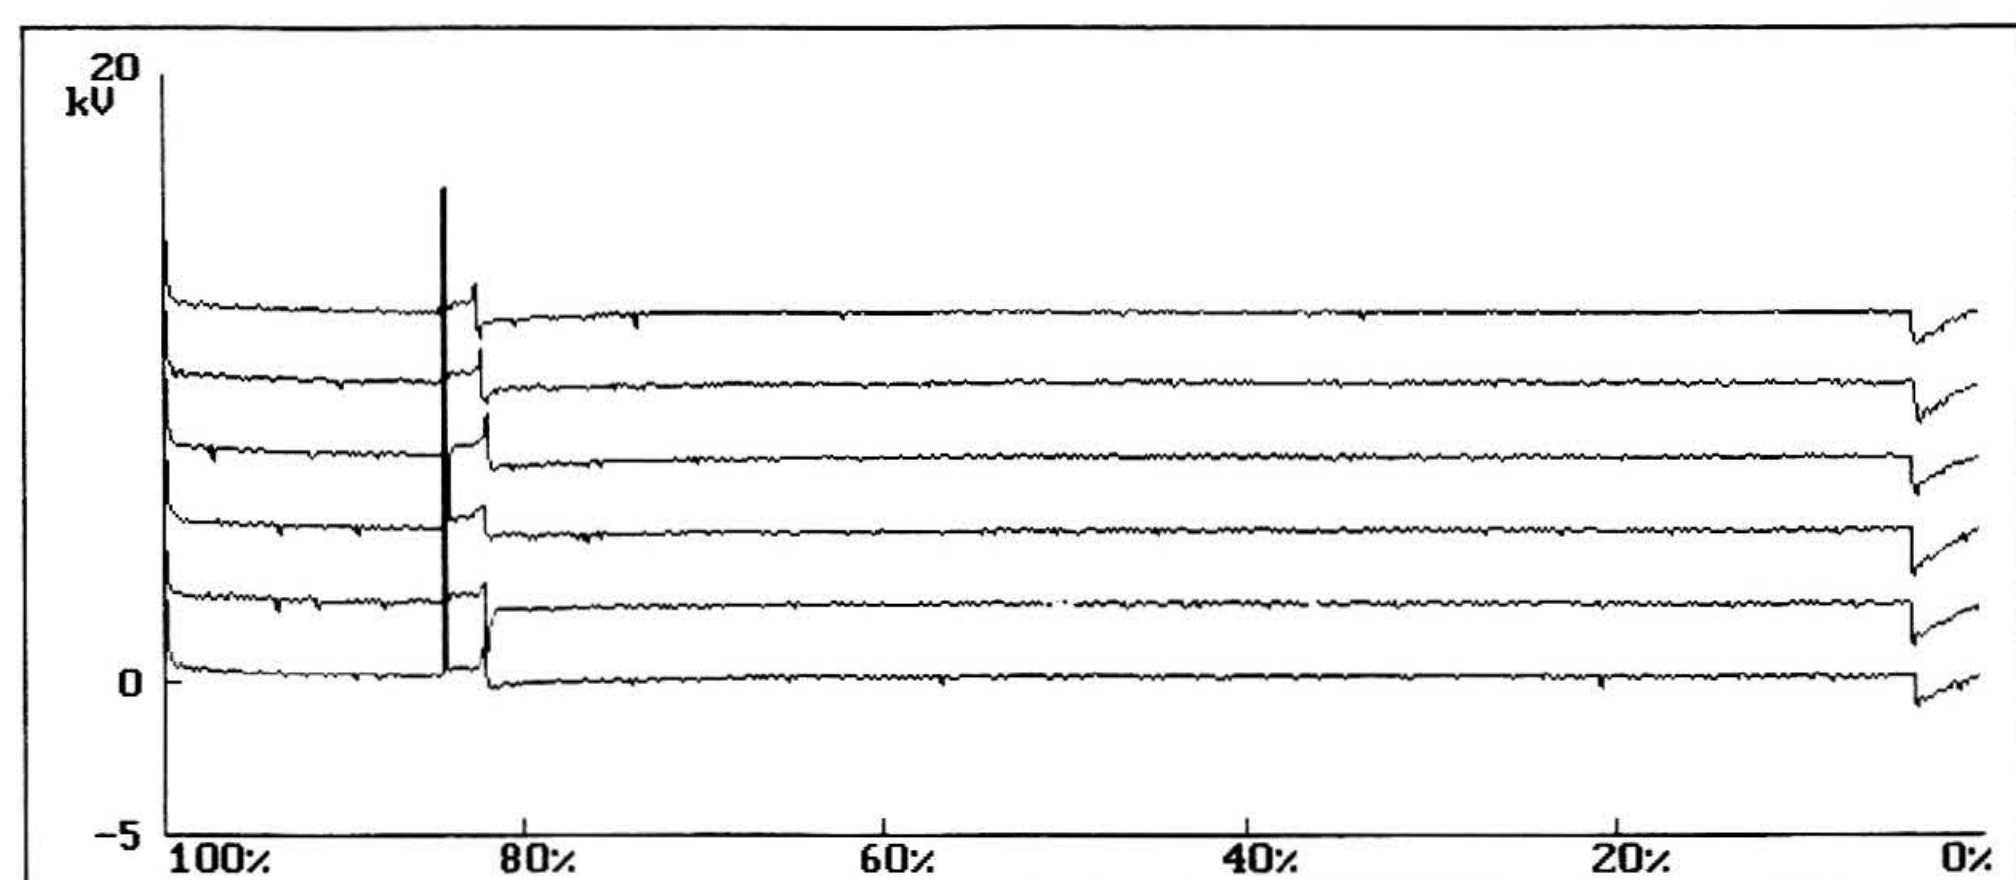
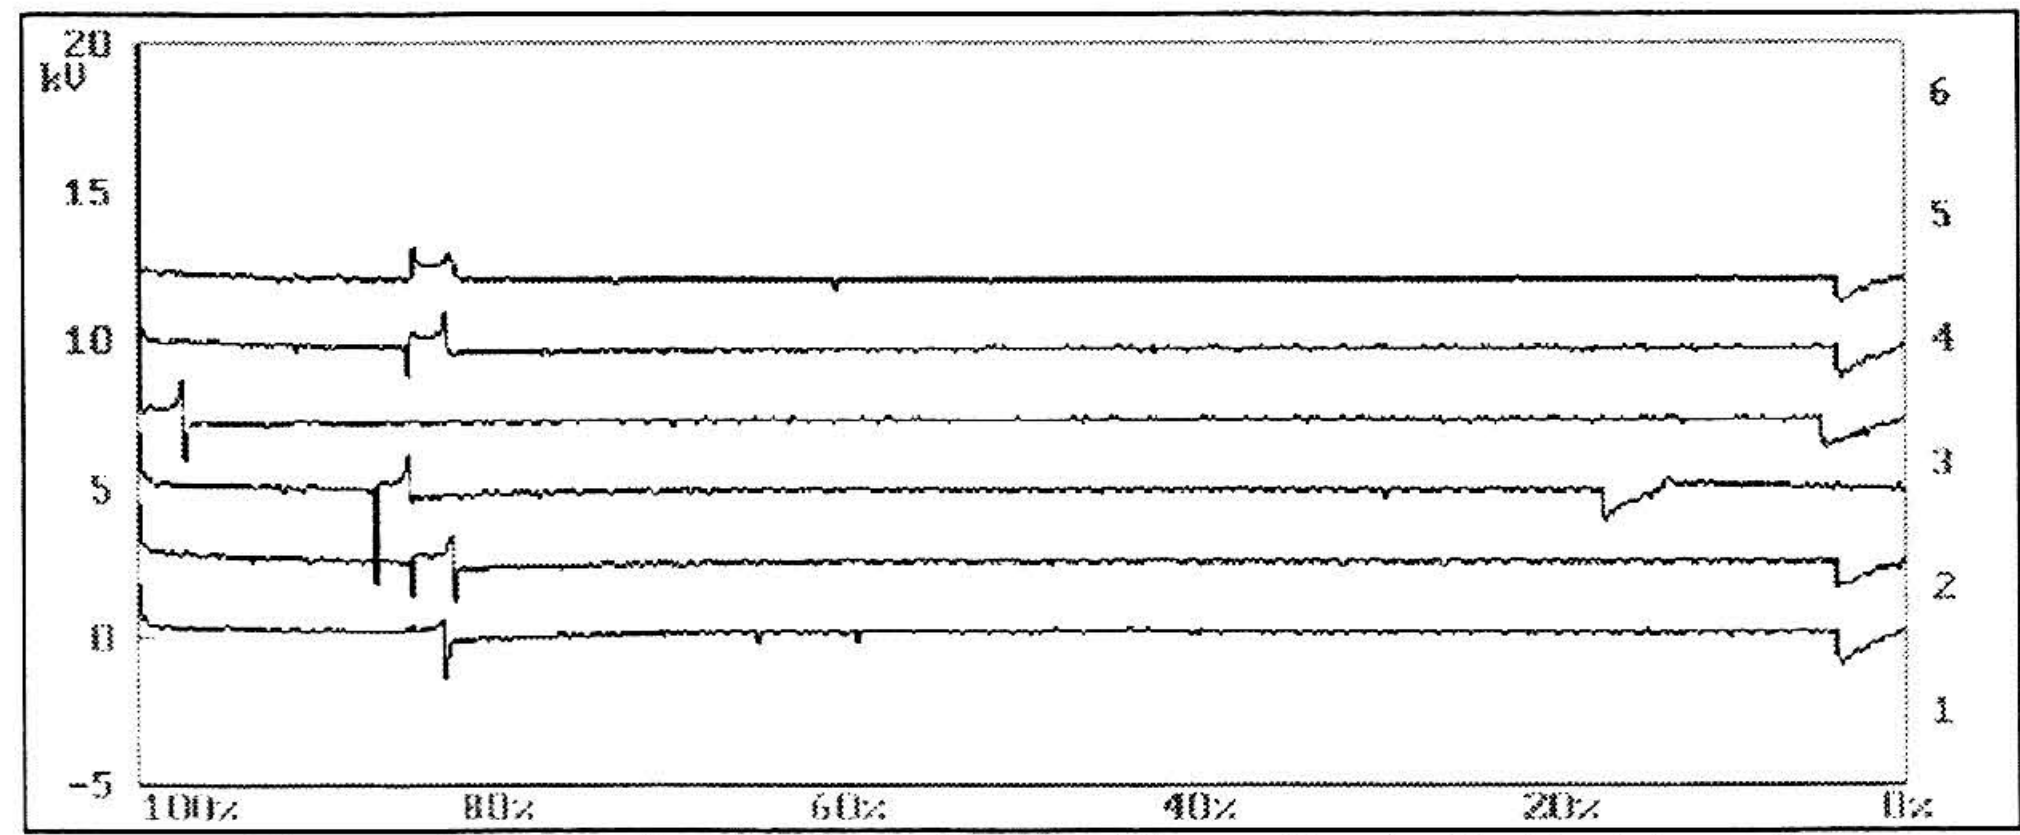

Figure 21: Raster Pattern Shifted from the Left, Problem 6
Figure 22: Raster Pattern Shifted from the Left, Problem 6
- Check the raster pattern at the problem speed. If any or all of the cylinder firings shift away from the left side of the screen as shown in *Figure 21* and *Figure 22* the gain may be set too high.
- ✓ *Figure 21 and Figure 22 are examples of gain set a little too high. With engine running, no problems were evident. When performing a cranking test, the tester displayed a "data out of Sync" message at the end of the test.*